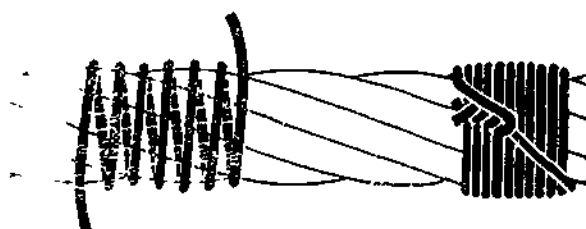

Figure 7-67. Stranding Rope-Method 2
**Method 2.** This method is usually used on ropes and strands of 1" diameter and smaller. Wrap the seizing wire around the rope in a close, tight winding in a direction opposite to the lay of the rope (Figure 7-67). Each seizing should consist of from 8-10 closely wound wraps of seizing wire. Twist the two ends together by hand in a counter-clockwise direction approximately at the centre of the seizing and about  $1/2$  from the rope. Using cutters, alternately twist and take up the slack until the serving is tight on the rope. Twist seizing ends tightly against the serving, wind twisted ends into a knot and cut off the ends of seizing wire.